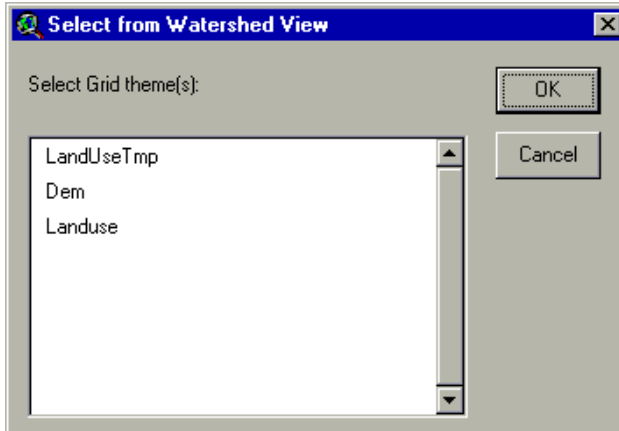

Figure 6.32
- i. If loading from the *Watershed View*, a dialog box is displayed (Figure 6.32) showing the list of grid themes.